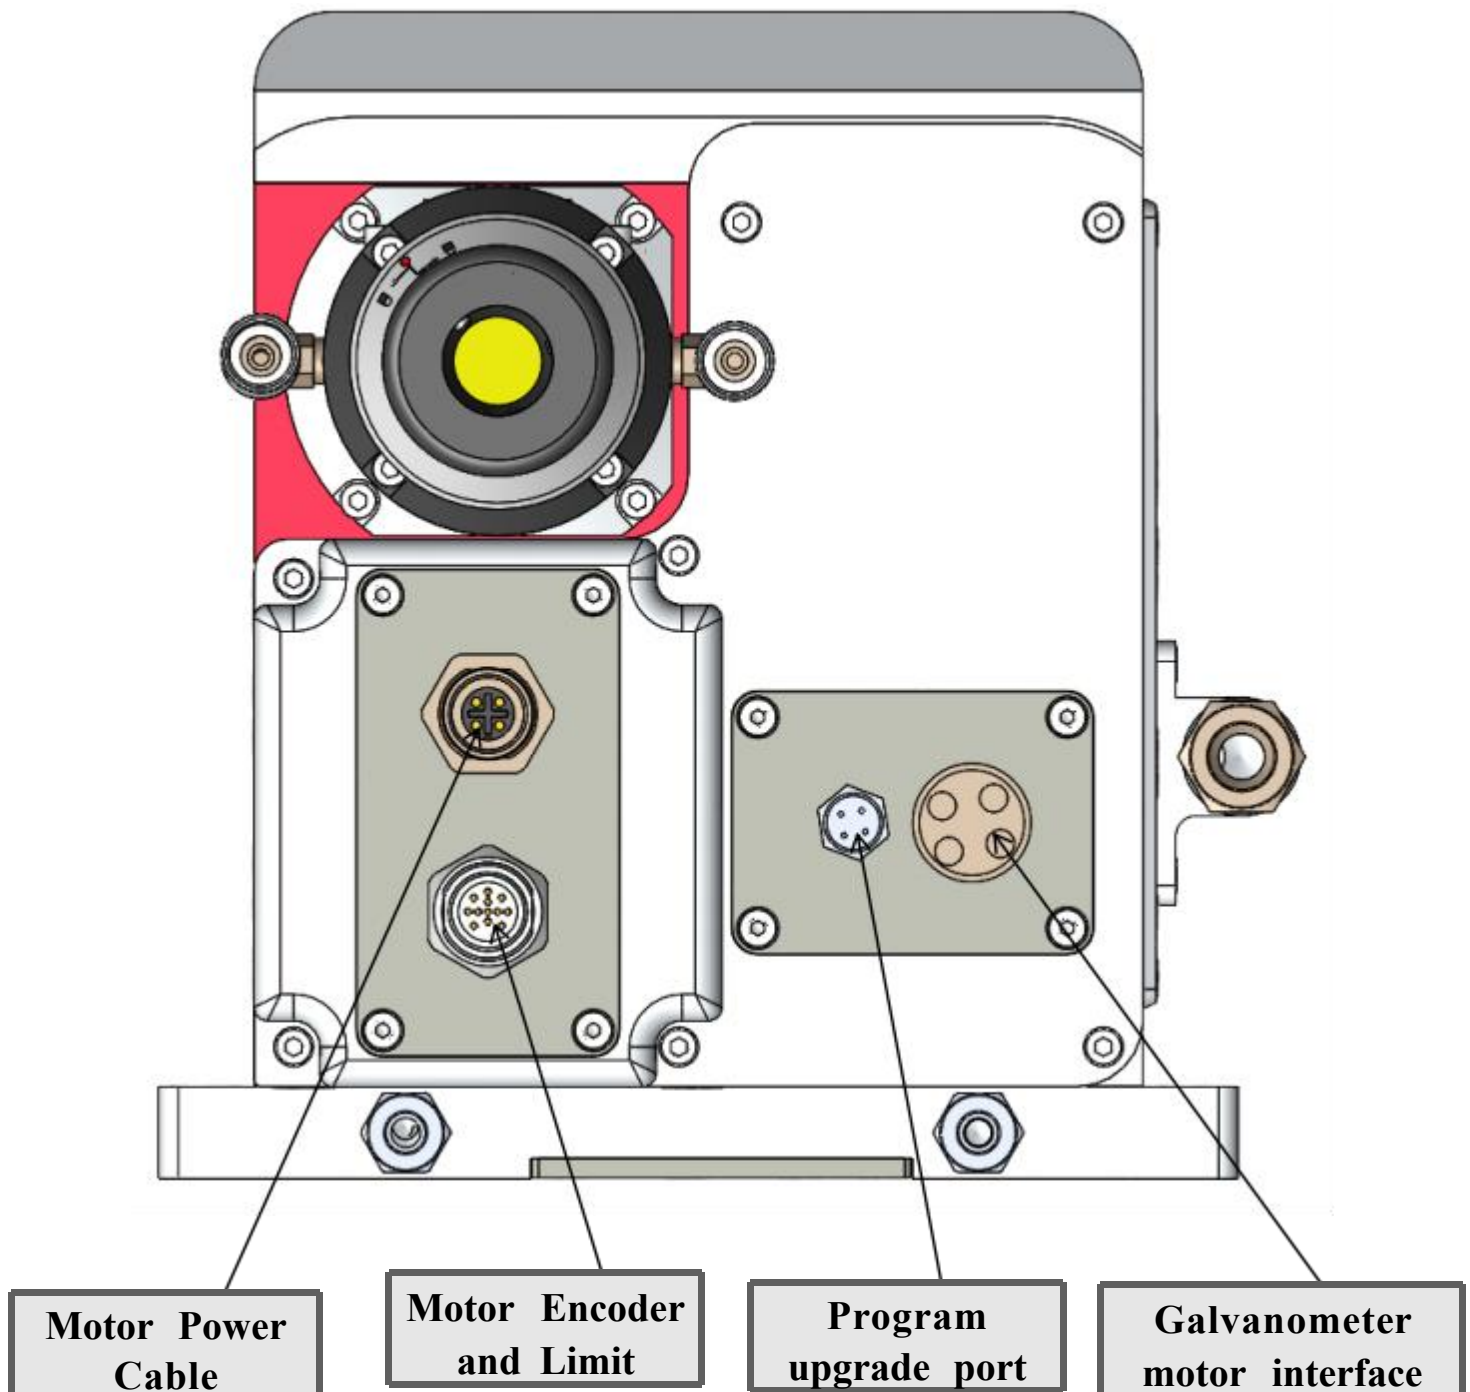

Figure 1.6
(1) Ensure that the power supply is cut off before operating the aviation plug, otherwise the motor may be burnt. Pay attention to the position of the holes when connecting the power cable and signal cable to avoid damaging the pins, as shown in the Figure 1.6 below: